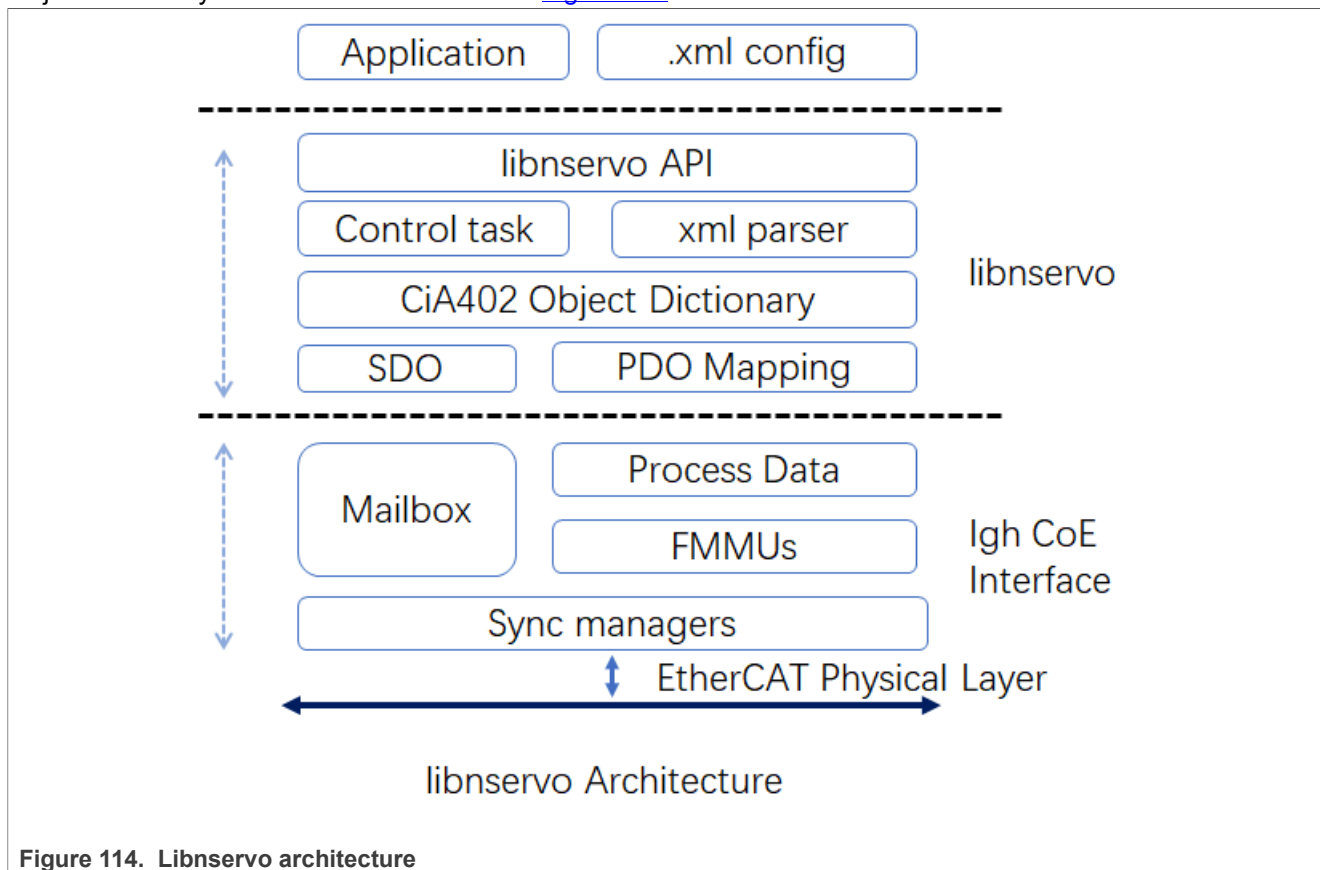

Figure 114. Libnservo architecture
**real-time-edge-servo** runs on top of the *lgh* EtherCAT stack. The *lgh* stack provides CoE communication mechanisms - Mailbox and Process Data. Using these mechanisms, real-time-edge-servo can access the CiA Object Dictionary located on CoE servo. The Figure 114 shows the Libnservo architecture.